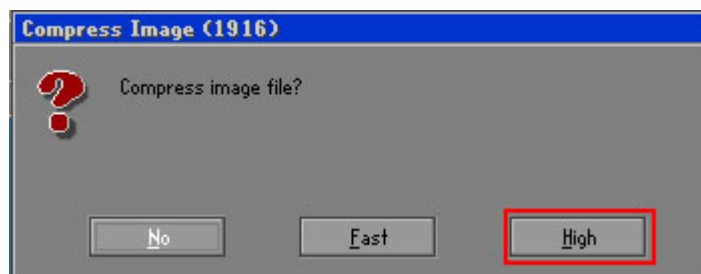

Figure B-17: Compress Image
Step 8: When the Compress Image screen in **Figure B-17** prompts, click **High** to make the image file smaller.